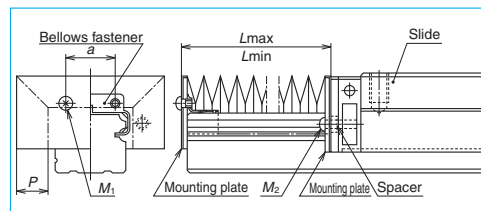

Fig. 7.7
##### \* Fixing to the ball slide (Fig. 7.7)
- Remove two machine screws ( $M_2$ ) which secure the end seals to the end of the slide (**Fig. 7.7**). For NS15 and DS15, hold the end cap by hand. Otherwise, the end cap is detached from the ball slide, and the balls inside may spill out.
- To install bellows for NH, NS, DH, and DS Models lightly knock a fastener exclusively for bellows to the end of the rail (**Fig. 7.7**). Then secure the mounting plate to the end of the bellows through the tap hole of the fastener.